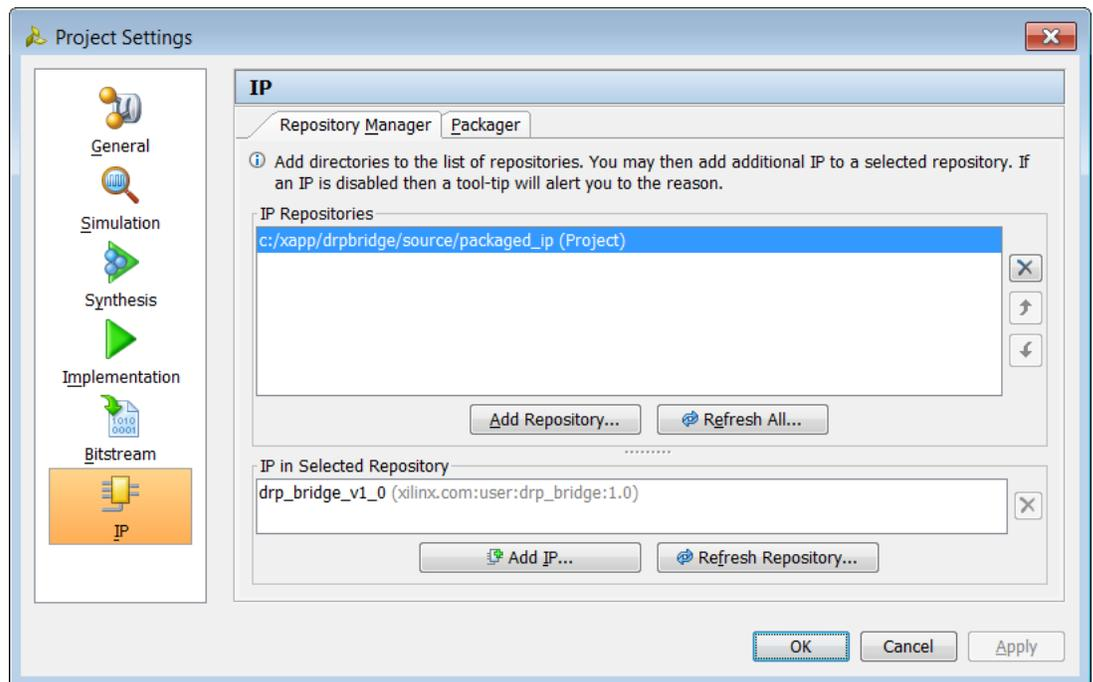

Figure 10: Adding IP to Repository
2. In the **Project Settings** menu, select the `packaged_ip` directory as shown in Figure 10.